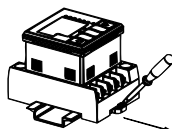

Figure 2b
- ① The front plate is equivalent to IP66 rating. However, water may invade if the panel mount adapter is not secured firmly with screws. Tighten the screws as shown in the figure below.
- ② As illustrated below, hook the nail on the bottom of the body on the DIN rail and press down in the direction of the arrow. To remove the body from the DIN rail, lift the switch up with a bladed screwdriver, etc. in the direction of the arrow. Refer to figure 2b.
- ③ Be careful not to apply excessive force to the wiring during mounting on panel or DIN rail.